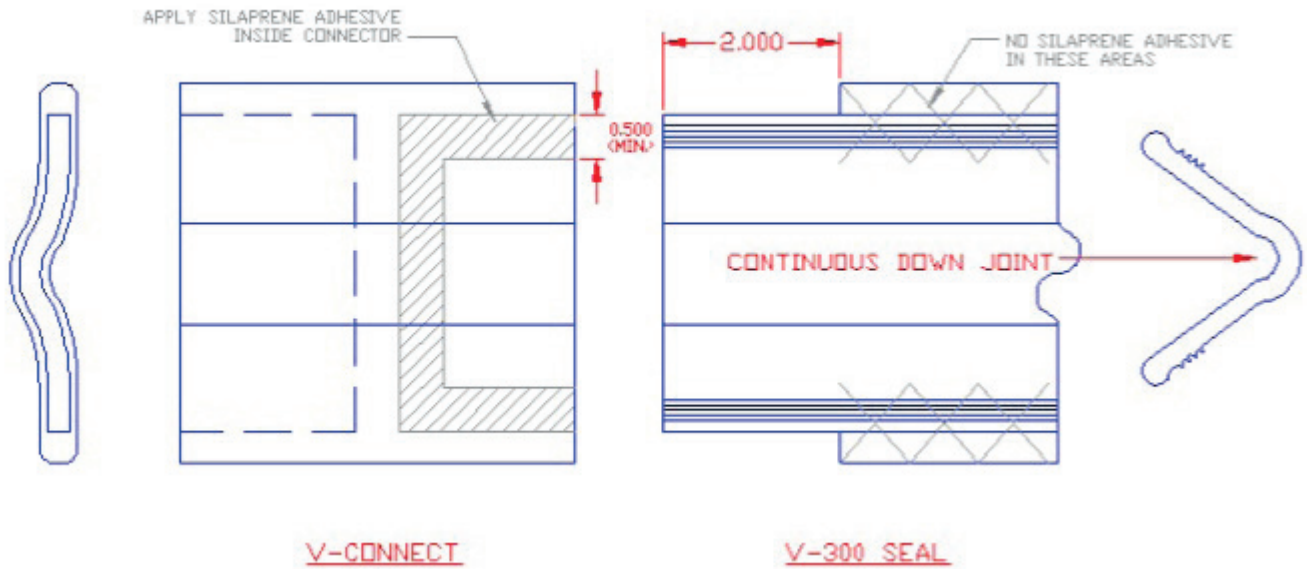

Fig. 1 – V-Connect and seal to be spliced.
- Remove 2 inches of each lug from the ends of the seals to be spliced as shown in Fig. 1.
- Using a standard caulk gun, apply a ½" (min.) bead of Silaprene adhesive inside the seal cavity of the V-Connect around the perimeter as shown in Fig. 1.